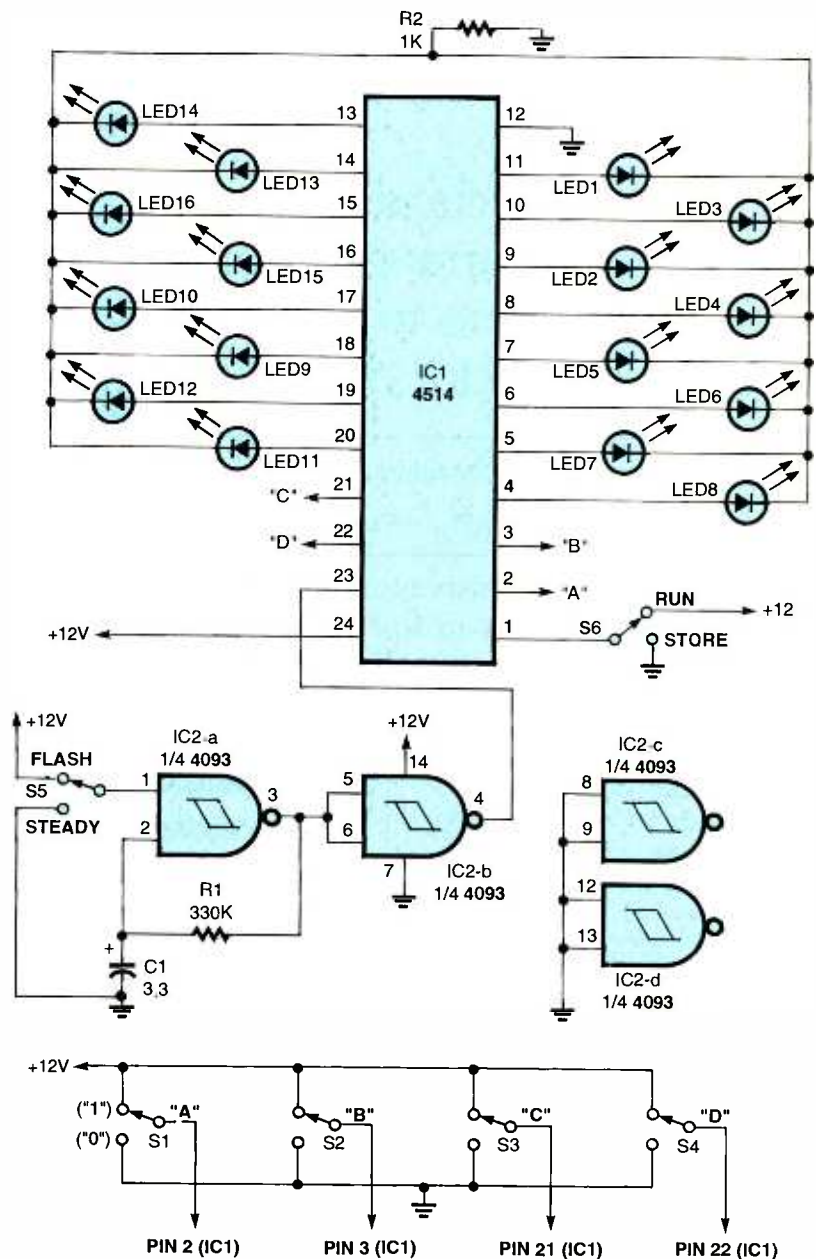
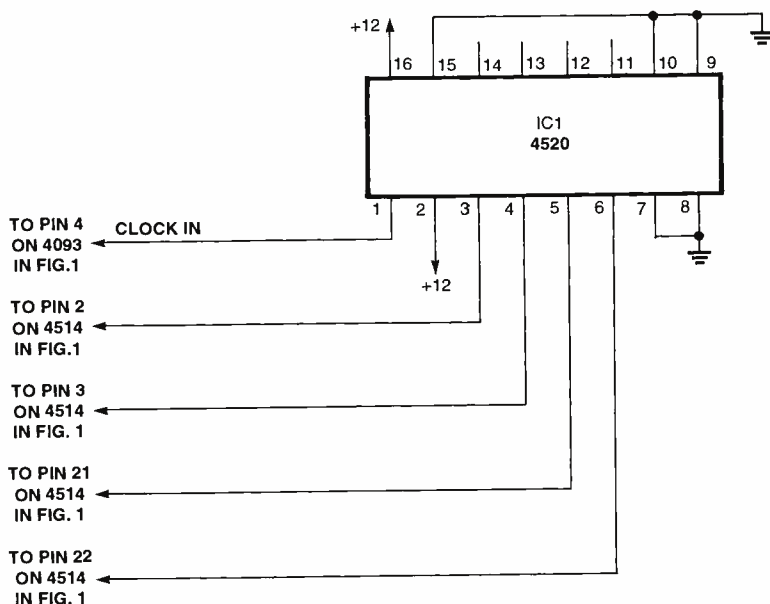

Fig. 1. This decoder circuit converts 4-bit BCD data inputs to one or more decimal outputs. The LEDs represent the output decimal number.
Fig. 2. Here's an addition to the circuit in Fig. 1—an external clock input into the 4520 IC sets the BCD data.
Now let's take a look at the 4514 circuit shown in Fig. 1 and see how it can work for us. If we monitor IC1's 16 outputs we can tell if the circuit is performing as expected. Connecting an LED to each output makes the job a snap. All of the LED's cathodes are tied together and returned to ground through a single 1000-ohm resistor, R2. Since only one output can be on at a time, a single current-limiting resistor is all that is needed.
PARTS LIST FOR BCD DECODER CIRCUIT (FIG. 1)
PARTS LIST FOR CIRCUIT TO CLOCK IN BCD CODES (FIG. 2)
A variation of this circuit is shown in Fig. 2. One-half of a dual divide-by-sixteen counter IC, a 4520, is used to supply the BCD codes to the 4514 circuit of Fig. 1. The 4520 CMOS dual binary up-counter contains two divide-by-sixteen counters with a 1, 2, 4, 8 binary output code. The 4520's clock input ties to the output of the 4093 low-frequency oscillator circuit of Fig. 1, and it steps the counter from 0 to 15. The "A," "B," "C," and "D" BCD outputs of the 4520 are connected as shown in Fig. 2 to the 4514 inputs of Fig. 1.
The next four circuits, all shown in Fig. 3, illustrate how the 4514 positive logic data outputs can control external loads. The circuits shown can be driven with any of the 4514 IC outputs from Fig. 1. The circuit in Fig. 3A allows the IC to control an AC-operated lamp or other low-current load. The MOC3010 optoisolator/coupler can supply a load up to 100 mA at 117-volts AC. The circuit in Fig. 3B uses a IRF511 power MOSFET to drive a 12-volt DC heavy-duty relay. In Fig. 3C, a 2N2222 NPN transistor drives a low-current 12-volt DC lamp. Figure 3D illustrates how to invert any of the 4514's outputs through one section of a 4049 hex-inverting buffer IC.
If, for some reason, you need the 4514 outputs to go low instead of high, just remove the 4514 and replace it with a 4515 IC. The 4515 presents a logical "0," or low, at the selected output and is a pin-for-pin replacement for the 4514—with only the outputs being reversed. Figure 4 shows how the 16 LEDs may be connected to the 4515 and used for output indication. Refer to Fig. 1 for the other connections.
Fig. 3. These four circuits are driven by the 4514 IC in Fig. 1. In (A) the AC load is derived from an optoisolator/coupler. In (B) a MOSFET is used to switch the relay state, which controls the load. A simple transistor in (C) drives a lamp load, and in (D) the circuit shows how an inverting buffer is used to invert the output at the load.
The circuit in Fig. 5 shows IC1, the 4067 CMOS 16-channel analog multiplexer/demultiplexer, connected in the digital mode with a single 12-volt DC supply. The 4093 Schmitt trigger, IC2, is connected as a low-frequency oscillator circuit to supply a clock input to IC1 (the same circuit we used in Fig. 1). Switch S5 selects either the oscillator's output or an external digital signal for IC1's in/out port at pin 1. Switches S1-S4 are set up for a BCD-coded input (the same as used in our first circuit) to drive IC1's BCD inputs "A," "B," "C," and "D".